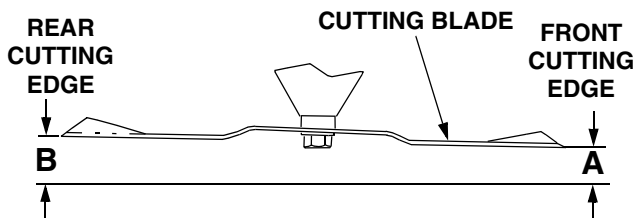

Figure 49
3. Refer to Figure 49. Measure and record the distance from the front cutting edge to the ground (measurement A), and from the rear cutting edge to the ground (measurement B), for each of the blades. The front edge of each blade (measurement A) should be lower than its back edge (measurement B) by 1/8 to 1/4 inch.